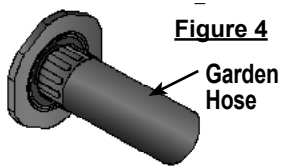

Figure 4
3. Push the garden hose and drain tube half-way back towards the exercise system (Figure 4) which will start the gravitational flow. Drain tube must be in the mid position for the exercise system to drain.